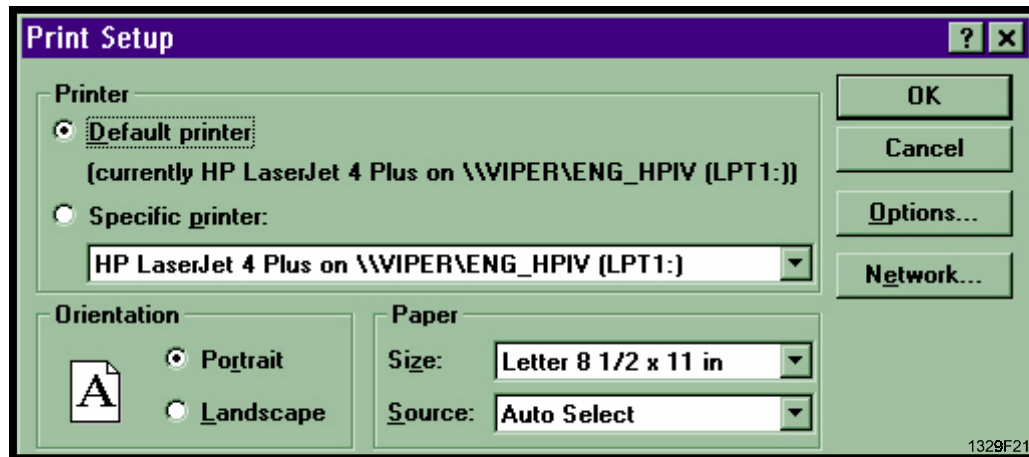

Figure 27: Print Setup Screen (X1/X3)
1. **Print Setup** - Click on "PRINT SETUP" in the Print menu to display the Print Setup screen (Figure 27).